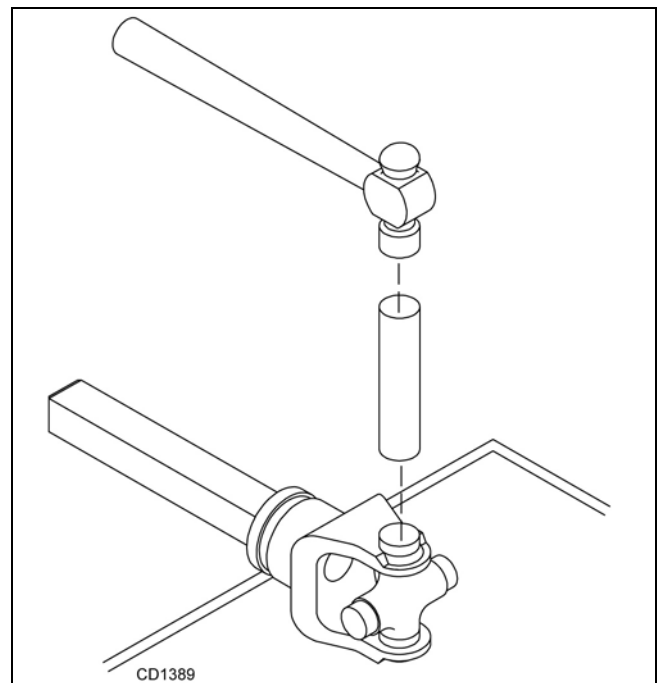

Figure 27
3. Seat cups by placing a drift or socket (slightly smaller than the cup) on cup and rap with a hammer. See Figure 27. Install snap ring and repeat on opposite cup.